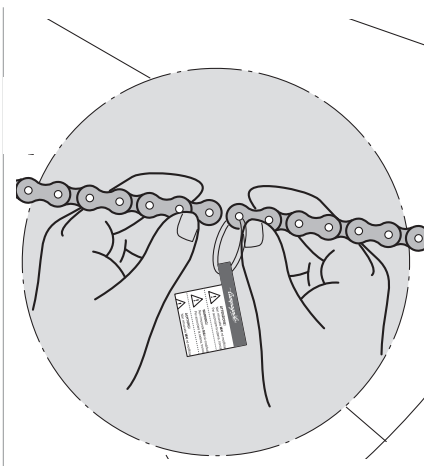

Fig.4.1
• Perform all of the following operations and remove extra links from the side of the chain opposite the external link, which is identified by the plastic band and the adhesive "WARNING!" label (Fig. 4.1).